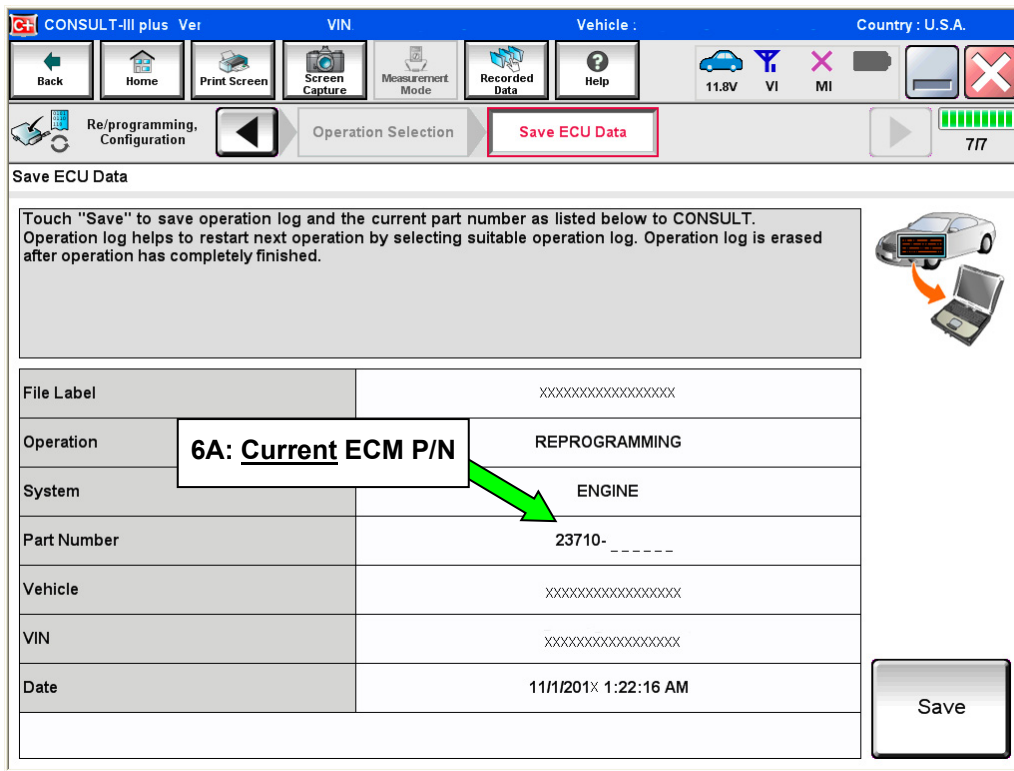

Figure 2
5. Follow the on-screen instructions and navigate the C-III plus to the screen shown in Figure 2 on the next page.
6. When you get to the screen shown in Figure 2, find the ECM **Part Number** and write it on the repair order.